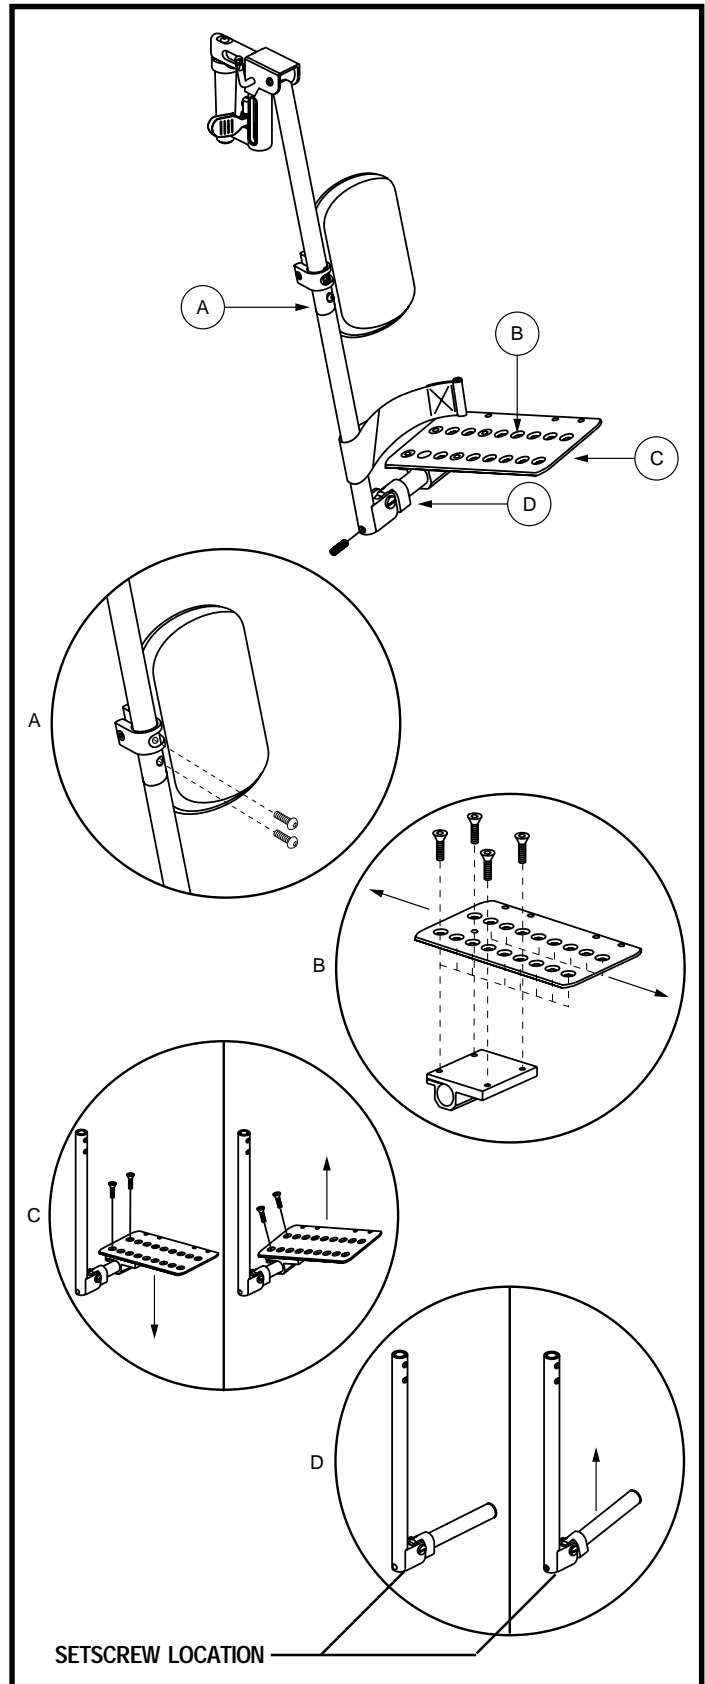

Figure 24. Multi-Axis Foot Plate (ELR Shown)
The multi-axis foot plate assembly can be installed on either a swing-away footrest or an elevating leg rest. The multi-axis foot plate has four adjustments: leg rest length (A), position (B), tilt (C), and angle (D). See figure 24.